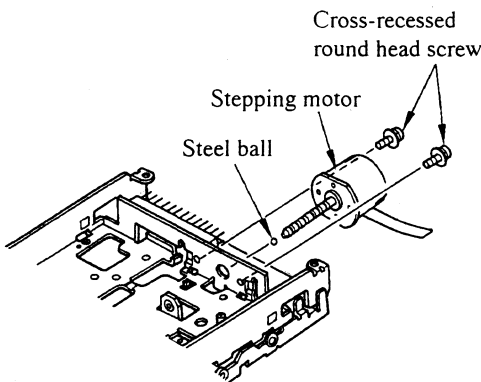

Fig. 4 - 9 (a)
- h) Remove the two stepping motor mounting screws (W Semus cross-recessed round head screws) and remove the stepping motor as shown in Fig. 4 - 9 (a).
- a) Install the steel ball to the end of the stepping motor as shown in Fig. 4 - 9 (a).
- b) Install the stepping motor with the two stepping motor mounting screws (W Semus cross-recessed round head screws) as shown in Fig. 4 - 9 (b).